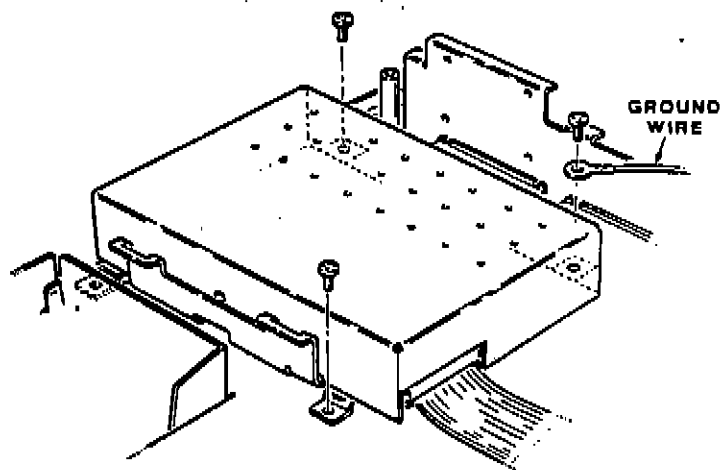

Figure 3-12. Hard Drive B Screws
Refer to Figures 3-12 and 3-13 for the following steps.
3. Remove the three screws from the drive B mounting holes, as shown in Figure 3-12. Set the screws aside.